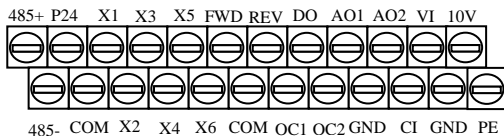

Fig. 3-7 CN2 terminals
(2) Control Circuit CN2 terminal shown as Fig. 3-7